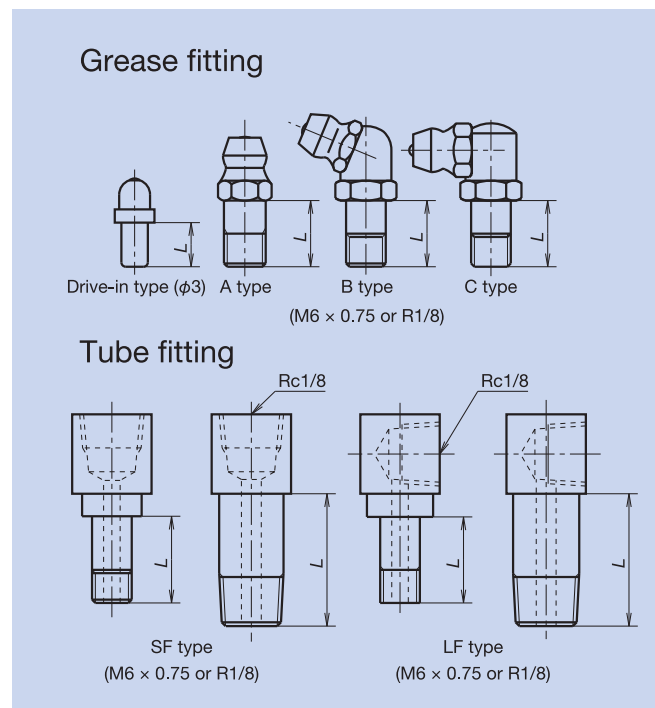

Fig. 13 Grease fitting and tube fitting
- Fig. 13 show grease fittings and tube fittings.
- We provide lubrication accessories with extended thread body length (L) for the addition of dust-proof accessories such as NSK K1 lubrication unit, double seal and protector.